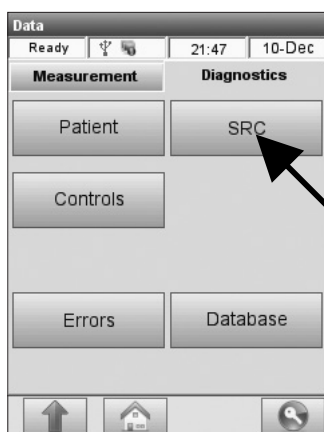

Fig. 6-18 Select SRC
2. In the **<Data>** screen, press the **<Diagnostics>** tab and select **<SRC>** (Fig. 6-18).